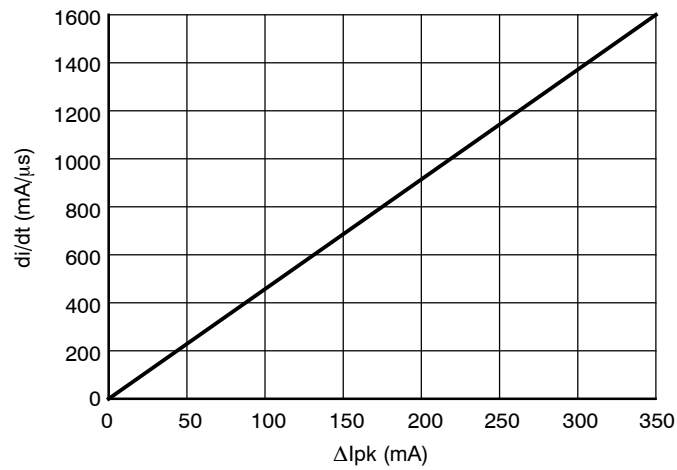

Figure 16. Power Switch Circuit di/dt vs. ΔIpk
9. Actual peak switch current is increased due to the propagation delay time and the di/dt (see Figure 16).
The current limit propagation delay time is typically 220 ns. This time is measured from when an overcurrent appears at the Power Switch Circuit drain, to the beginning of turn-off. Care must be taken during transformer saturation so that the maximum device current limit rating is not exceeded. To determine the peak Power Switch Circuit current at turn off, the effect of the propagation delay must be taken into account. To do this, use the appropriate Current Limit Threshold value from the electrical tables, and then add the ΔI_{pk} based on the di/dt from Figure 16. The di/dt of the circuit can be calculated by the following formula: